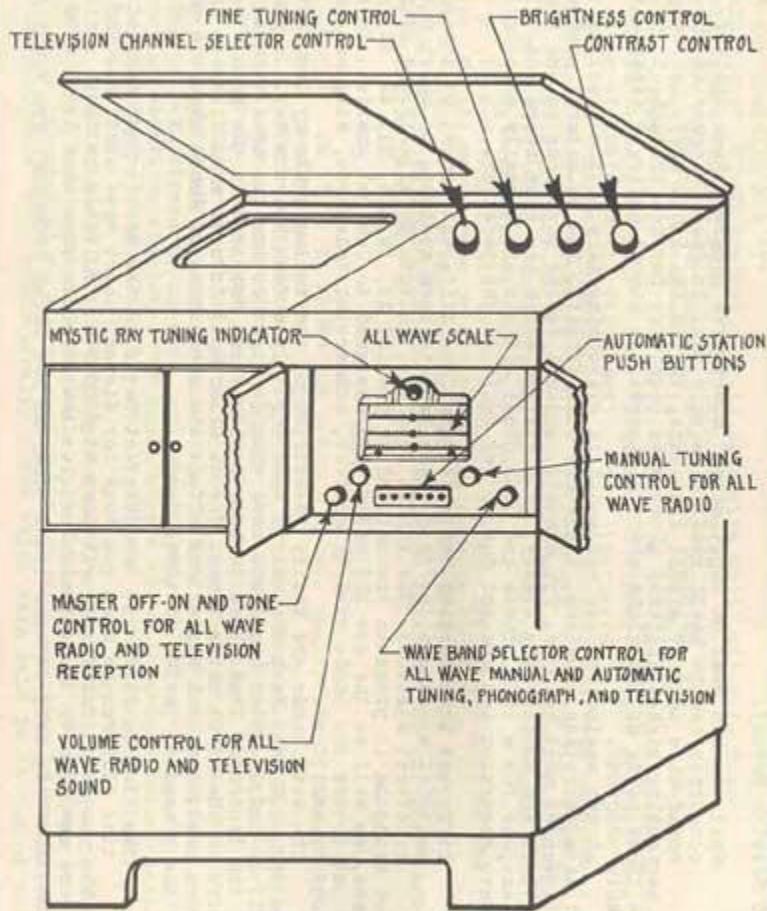
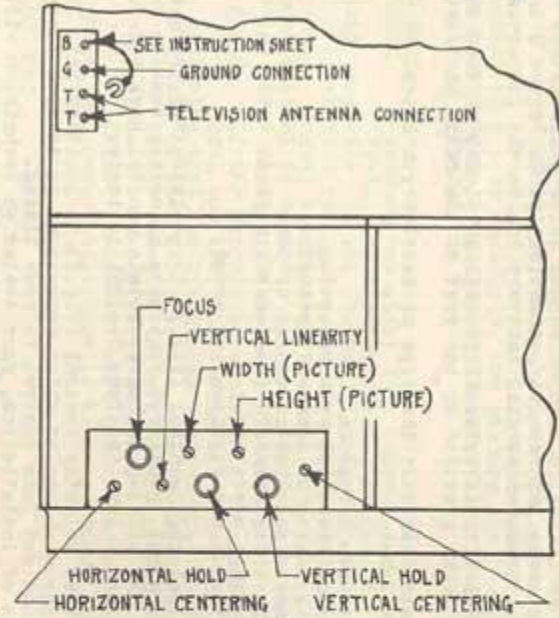

FIG. 1
FIG. 2
In the event the set is moved to another location, a slight readjustment of the controls in the rear may be necessary. For such cases only, the sketches in figure 2 give the location and use of each control.
Before the receiver is turned on at any time, turn wave band Selector control knob (Fig.1) to either the S, I, M, A or P position, and rotate counter-clockwise contrast and brightness controls (Fig.1) all the way.
Turn master Off-on Tone Control knob clockwise (Fig.1) to switch power "on". Further rotation varies the tone of the television sound - full tone reproduction being with the knob turned fully counter-clockwise. This knob is the master control knob for turning the entire instrument "off" or "on". After about 30 seconds, turn the Wave Band Selector knob (Fig.1) to position "T". This turns the television section of the instrument "on" and automatically removes the dial illumination. Allow sufficient time for the tubes to heat before proceeding further.
Turning Volume Control knob (Fig.1) clockwise increases the television sound volume; counter-clockwise decreases volume.
The television Channel Selector Control (Fig.1) selects automatically, the desired station and accompanying sound from which it is desired to receive television programs. This knob is marked 1,2,3,4,5 - representing the first, second, third, etc. television channel:
CONTRAST CONTROL The contrast knob, located in the top panel (Fig.1), regulates the
1. Turn Brightness and Contrast controls (Fig.1) completely counter-clockwise.
2. Open doors of radio panels (Fig.1). Turn wave band Selector knob marked S-I-M-A-P-T to any position but "T".
3. Turn master OFF-ON Control (Fig.1) clockwise until click is heard.
4. Turn Volume Control (Fig.1) 1/4 turn clockwise.
9. If an interfering ripple is observed in the picture, adjustment of the fine tuning knob (Fig.1) may reduce or eliminate the trouble.
10. Readjust the sound volume and tone controls (Fig.1) to your liking.
11. Always turn wave band Selector knob (Fig.1) to any position but that marked "T" before turning receiver "off".
**THE DIAL AND CONTROLS** In Fig.1 is shown the cabinet front, incorporating the controls necessary for correct operation. Turn Master Power OFF-ON Tone Control clockwise to apply power to receiver. Should tuning scale fail to light, then the Wave Band Selector knob is in position "T". Turning to another position will light the scale. There are three scales on the Tuning Dial, marked M-I-S. Scale "M" is for the Standard Broadcast and police calls. "I" is for the Intermediate Short Waves covering police, aircraft, amateur, and the 120,90, 80, 49 meter tropical and international broadcasting stations. "S" scale covers ships, amateur, transoceanic telephone, aircraft, as well as the 31, 25, 19, 16 and 13 meter international foreign short wave bands.
**HOW TO TUNE IN STATIONS MANUALLY** Turn wave band selector control (Fig.1) to position "M". Rotate manual tuning control to desired station's kilocycle reading on the dial until the station is heard. Rotate control back and forth about station for best quality. Adjust Volume and Tone Control to taste.
**HOW TO USE AUTOMATIC PUSH-BUTTON SELECTION OF FAVORITE STATIONS** Turn wave band selector control (Fig.1) to position "A". Press in button the markings of which correspond to desired station. Adjust Volume and Tone control to your liking. At the time of installation, your dealer or technician will make adjustments for electric push-button tuning on the radio chassis for your six favorite Standard Broadcast stations. (Instructions for setting buttons are contained in the Radio Service Notes).
**TUBES AND CHASSIS** There are four chassis in the back of the cabinet which your dealer will show you if you wish. Looking at the back, the various parts are seen as follows: The picture tube is positioned in the center. The radio chassis -RF12- is located in the cabinet front on the top shelf with the push-button adjustments accessible from the cabinet front. (See Fig.1). The television chassis -VF12- sets vertically toward the cabinet rear. The cabinet bottom contains the deflection high voltage chassis and the power supply chassis. The fixed television controls located on the deflection chassis are accessible from the rear. (See Fig.2). The antenna terminal board is located on the top left. (See Fig.2). The two interlock safety switches on the side panels, making contact when the back is correctly secured in place, will also be pointed out by your dealer.